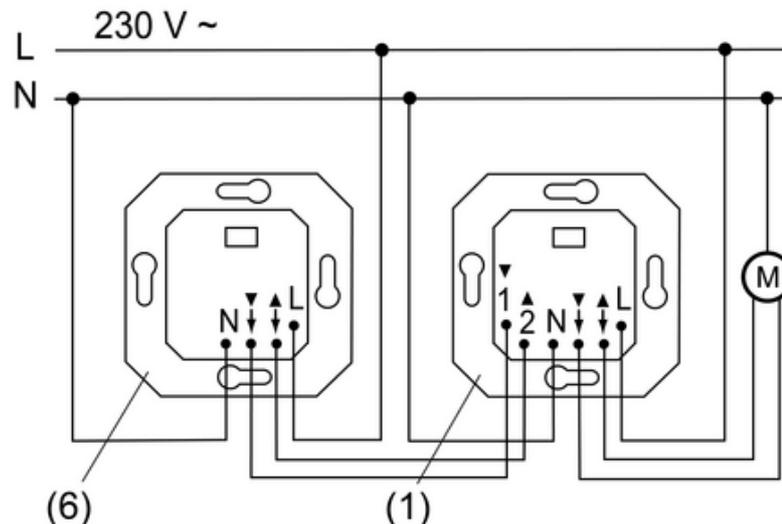

Figure 2: Control with extension
- Venetian blind control (1) for local control. Optional: Connection of an extension (6) (Figure 2). A mechanical blind button or blind switch can also be used as an extension instead of the venetian blind control.